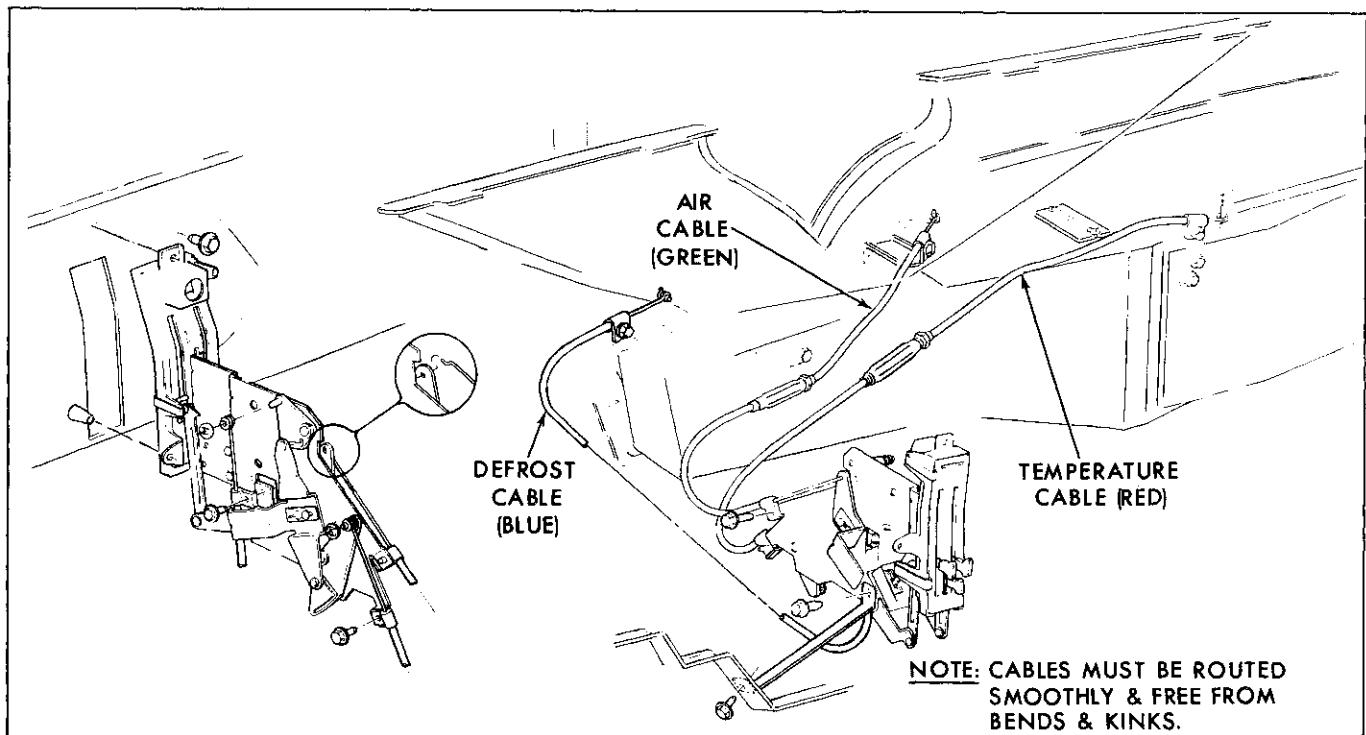

Fig. 1-2 Control Panel and Cable Routing—Tempest
1. Remove screws retaining heater control panel to instrument panel and brace (Fig. 1-2).
2. Disconnect wires from blower switch (Fig. 1-2).
1. Remove glove box (Fig. 1-2).
2. Remove air control bowden cable from heater core and case assembly (Fig. 1-2).
1. Remove defroster control cable from heater core and case (Fig. 1-2).